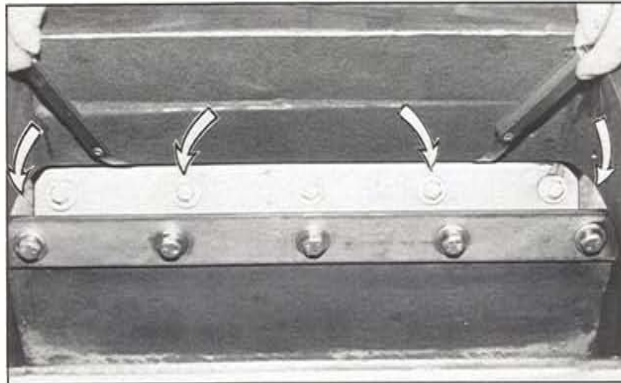

Figure 26 Airlock tip position
- Position tip as shown in figure 26